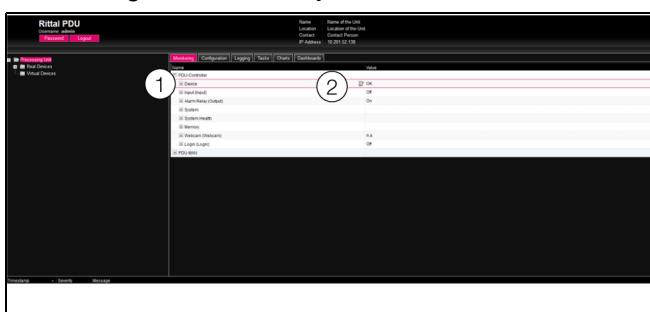

Fig. 47: Select multiple parameters
- Simply open the "PDU-Controller" entry by clicking on the "plus" symbol in front of that entry (fig. 47, item 1).
- Position the mouse pointer at the end of the first column in the "Device" line (fig. 47, item 2).